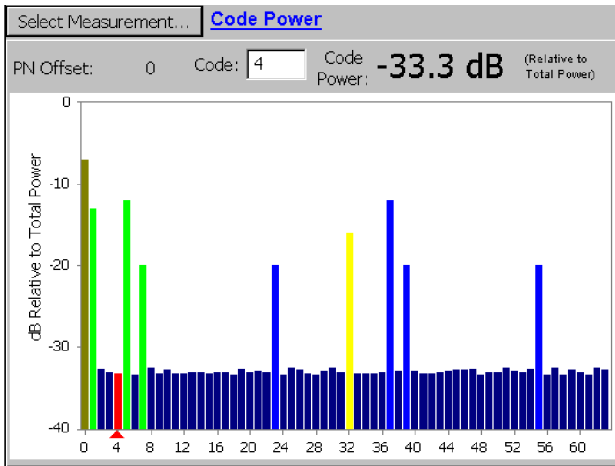

Figure 3-54: cdmaOne Code Power display
5. Tap **Code Power**. See Figure 3-54.
See Figure 3-54. The upper graph shows a magnified section of the lower graph. Use the scroll bar at the bottom of the window to scroll the upper graph.